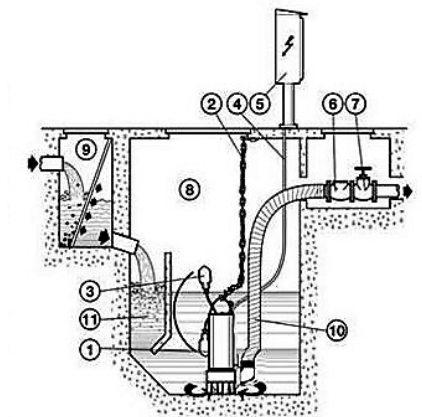

Fig. 5
5.2.1 Mobile Installation (fig. 5)